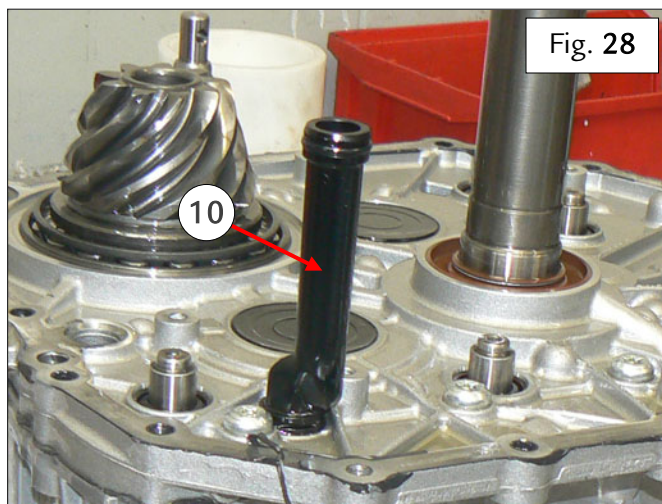

Fig. 28
- Remove the oil return pipe (10), complete with seals, from the plate – Fig. 28.